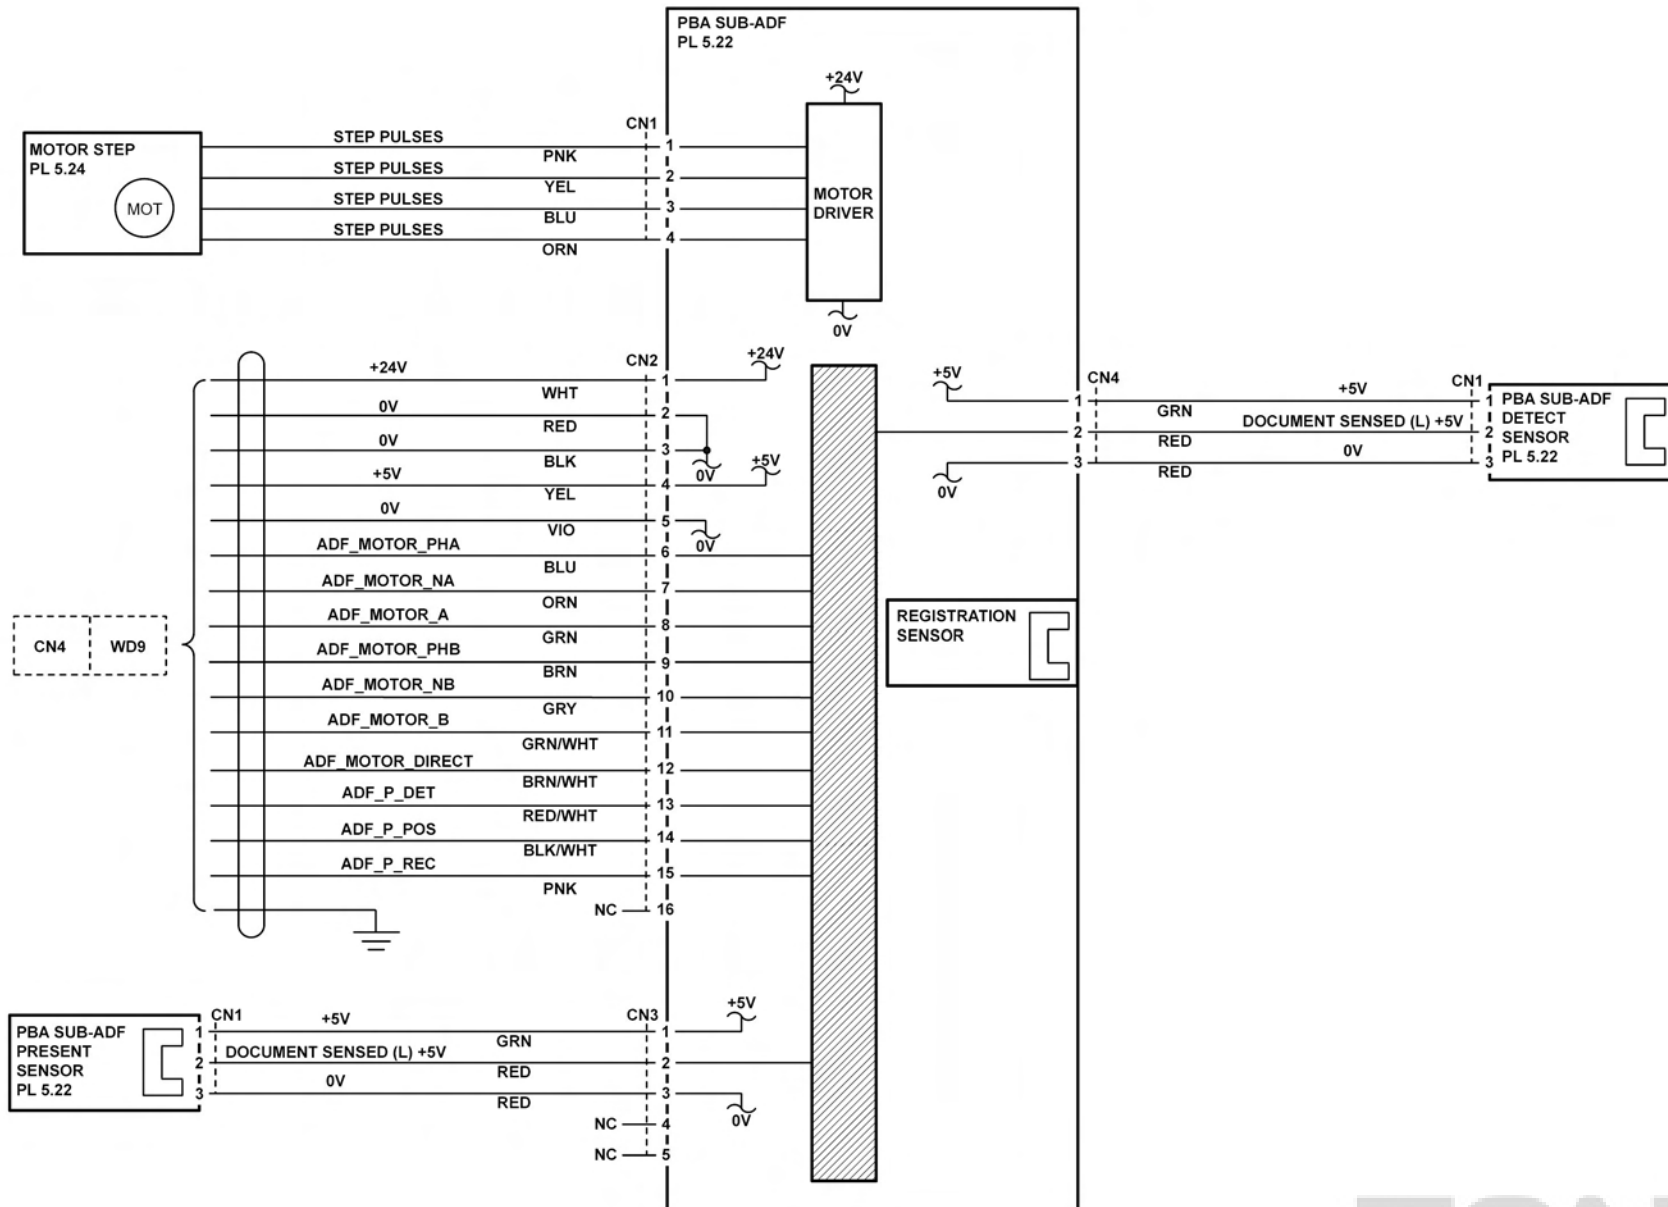

Figure 12 Wiring Diagram 12
12. PBA SUB - D SUB, Figure 12.